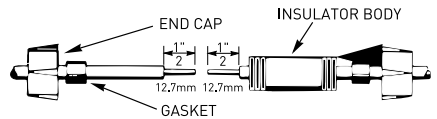

Figure 8
- D. Unscrew plastic caps from insulators. Place a cap and a neoprene gasket sleeve on each wire end to be spliced (see Figure 8).
- E. Slide insulator body onto one wire end (Figure 8).